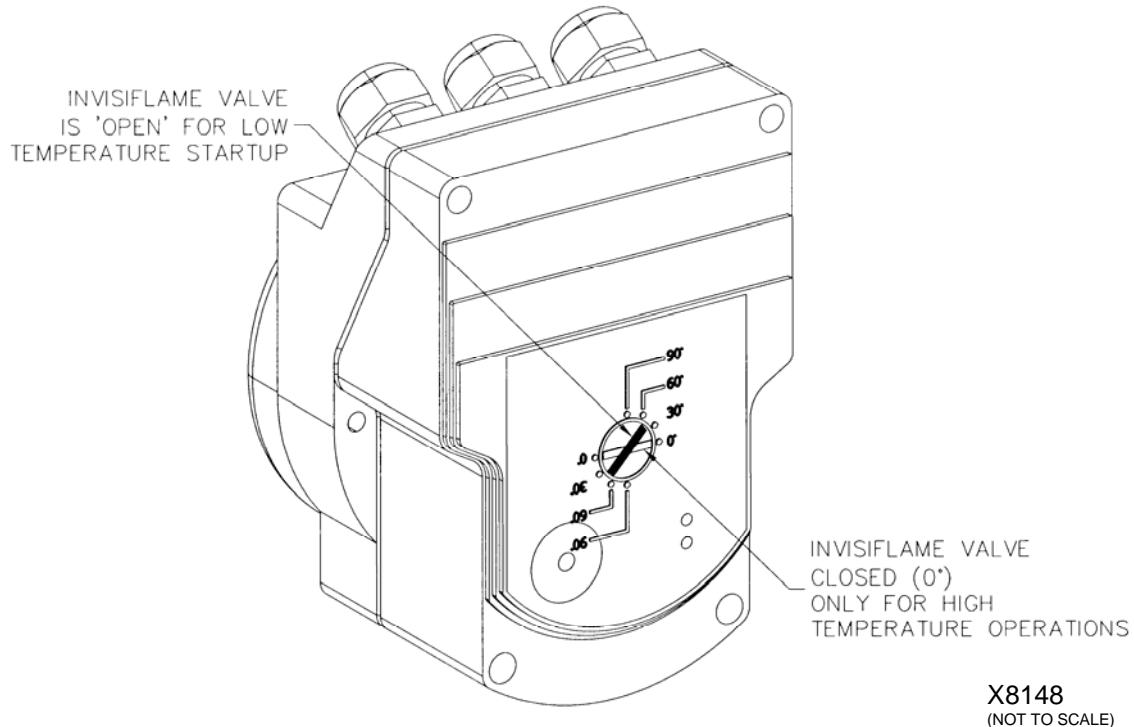

Figure 2. Invisiflame Valve Actuator Shown in 'Open' or Low Temperature (< 1,600°F) Furnace Startup Position
3. Provide power to the motorized Invisiflame valve actuator (see attached IC20 butterfly valve actuator sheet) and verify the valve position is in the 'open' position as shown in Figure 2 for low temperature furnace operation (< 1,600°F) of the burner, i.e. 'firing' mode. With the valve open, air is allowed to flow to stages 1 and 2 of the burner, refer to the burner capacity tables for the correct stage 1 and 2 air pressure in relation to stage 3 air pressure, check pressures with a suitable manometer, and adjust the opening of the Invisiflame valve as required to achieve the necessary pressure. Provide air to the burner and verify the flow prior to attempting to light burners.
7. Verify that the air pressure at the burner inlet, stage 1 and 2 static air pressure, and stage 3 static air pressures are as indicated in the capacity tables (Tables 1-4). If necessary, adjust the position of the Invisiflame Valve Actuator (Figure 2) to achieve the needed static air pressures at stage 1, 2 and stage 3. For detailed instructions, see attachment on the IC20 Butterfly Valve Actuator.